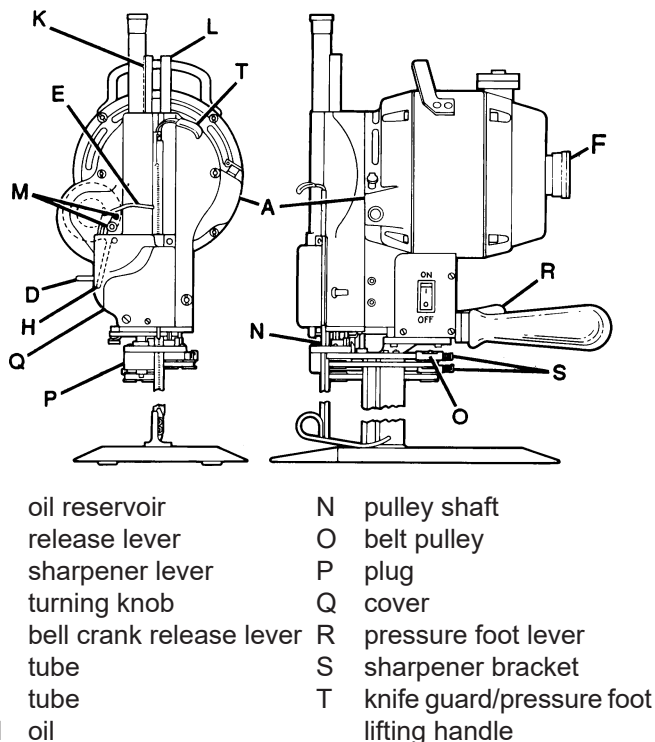

Figure 2. Controls and Adjustments
1. Check that the electrical supply current and voltage that the machine is connected to are the same as stamped on its name plate. For three-phase machines, also check that the direction of rotation is correctly set by the turning knob (Figure 2, F). Refer to the tag attached to all three-phase machines for detailed instructions.
3. Make sure that the sharpener is in the locked position. To do this, push in the turning knob (Figure 2, F). While depressing the turning knob, turn the machine over a few revolutions by hand to see if the knife reciprocates easily. If the knife does not move easily, the sharpener may be in the unlocked position.
4. To lock the sharpener in place, lift the release lever (Figure 2, D) and press the sharpener lever (Figure 2, E) to release the sharpener. Raise the sharpener bracket (Figure 2, S) by hand to lock it in place. Once the sharpener is locked in place, you may disengage the release lever and sharpener lever. Repeat step 3 to ensure that the sharpener is now locked. If not, repeat this step.
- 7.2 Press the bell crank release lever (Figure 2, H) to disengage the sharpener mechanism from the motor.
2. Raise the knife guard/pressure foot by depressing the pressure foot lever (Figure 2, R) and lifting the knife guard/pressure foot lifting handle (Figure 2, T). Raise the pressure foot only enough to clear the material being cut.
4. Using the pressure foot lever (Figure 2, R) and the knife guard/pressure foot lifting handle (Figure 2, T), lower the pressure foot so that it is slightly above the material being cut. This will prevent the material from reciprocating.
6. When you are not making a cut, or when the machine is not in use, keep the knife guard/pressure foot lowered to the baseplate by depressing the pressure foot lever (Figure 2, R).
2. Make sure the knife guard/pressure foot is lowered to the baseplate by depressing the pressure foot lever (Figure 2, R).
Remove the cover (Figure 2, Q) and clean any lint from around the screw mechanism in the sharpener.
1. Place two drops of oil at each of the two locations shown in Figure 2, M. Use an oil can with a small spout. (A suitable oil can is furnished with the machine.)
2. Fill the oil reservoir (Figure 2, A) for continuous use. If you only use the machine intermittently, you can use less oil.
- Tubes at locations shown as Figure 2, K and L.
- Pulley shaft shown as Figure 2, N.
- Belt pulley shown as Figure 2, O.
2. Remove the plug (Figure 2, P) and insert a grease tube. Squeeze an amount of grease approximately the size of a pea into the opening.
2. Drop the knife guard/pressure foot using the pressure foot lever (Figure 2, R on page 3), located next to the machine operating handle.
3. Press the sharpener lever (Figure 2, E) downward with a slow, firm pressure to engage the sharpening mechanism. Too fast a lever action may cause the lever to lock. If this occurs, lift the release lever (Figure 2, D) and start over again.
2. Using the turning knob (Figure 2, F) raise the blade to top position.